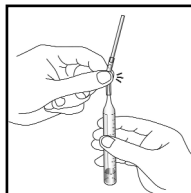

Figure 2
2. Gently snap the tip of the glass ampoule at the black snap ring (fig. 2).